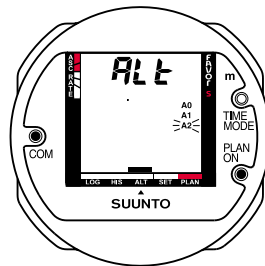

Fig. 4.9 PERSONAL/ ALTITUDE ADJUSTMENT SETTING, STEP 3
3. Connect again the PLAN/ON and COM contacts until the blinking personal/altitude adjustment mode starts to scroll. Release your fingers when the desired mode is blinking (Fig. 4.9). Wait at least two seconds but no more than four seconds before next step.